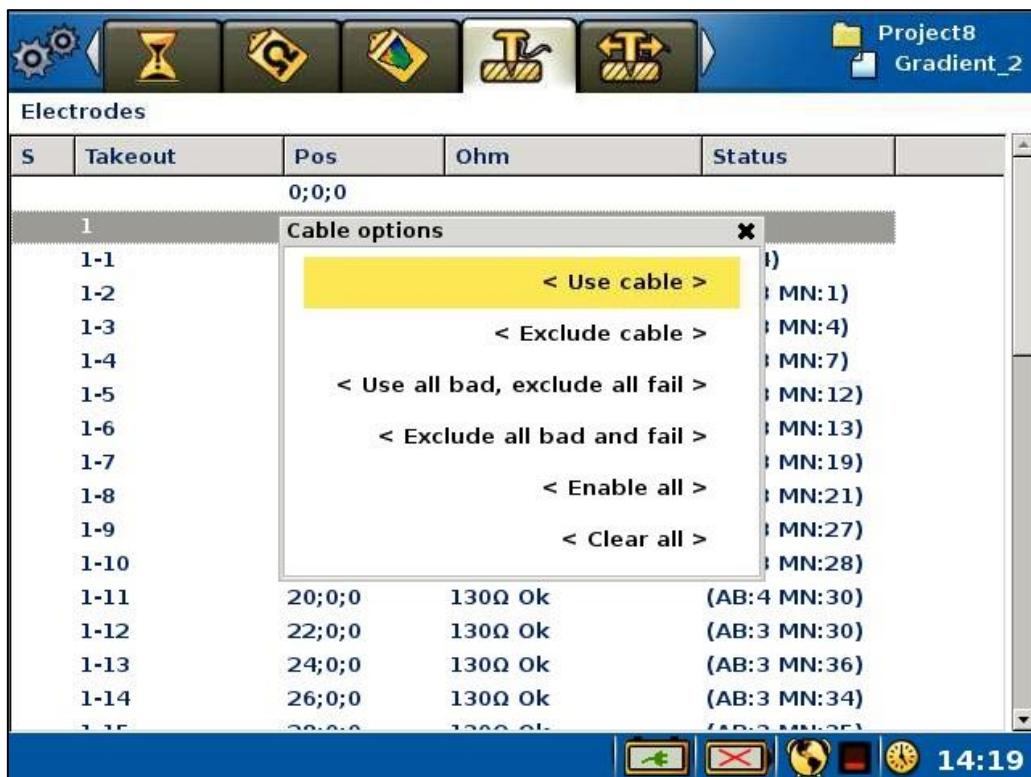

Figure 50 Exclude cable pop-up menu
There may be occasions where there is not enough space to use all cables or electrodes within a spread, and it is necessary to use just a subset of the spread. In these instances it is possible to exclude using the "Measure/Electrodes" Page (Figure 50).
- Highlight the <Exclude cable> / <Exclude electrode> *Menu Item* (Figure 50)